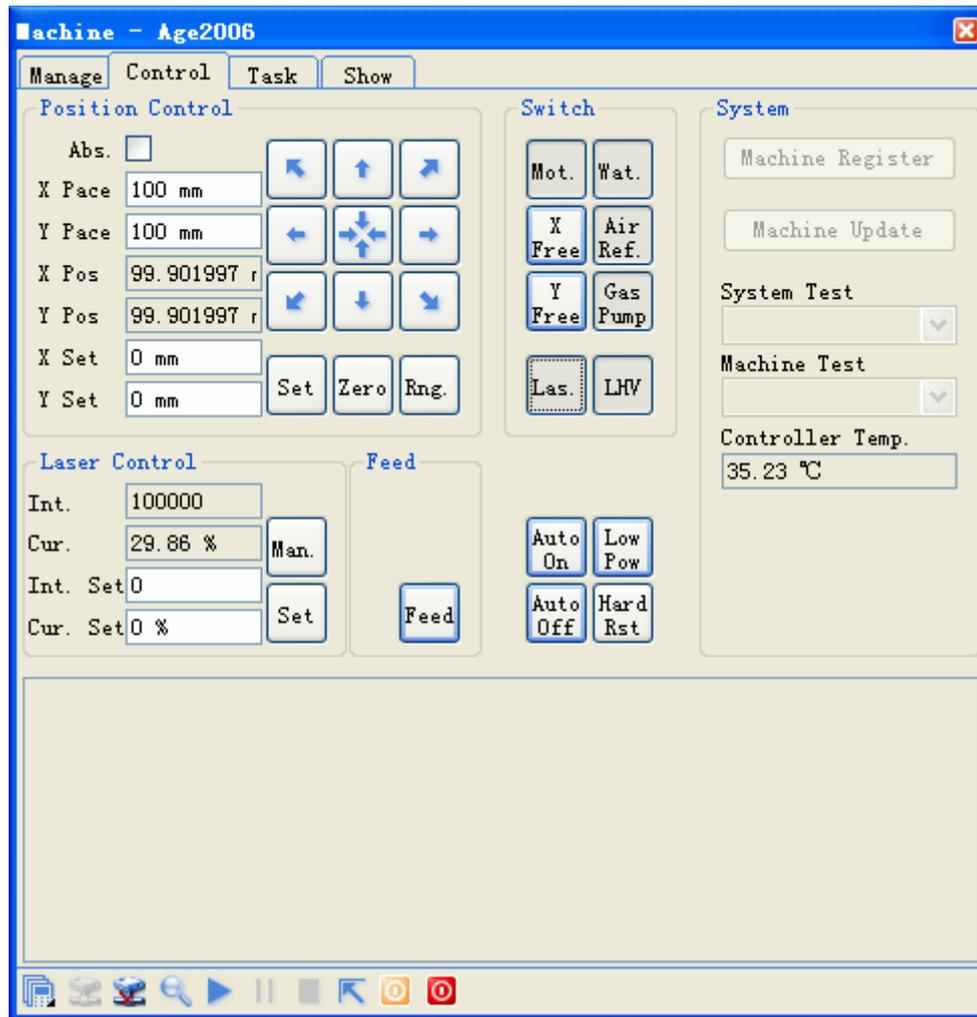
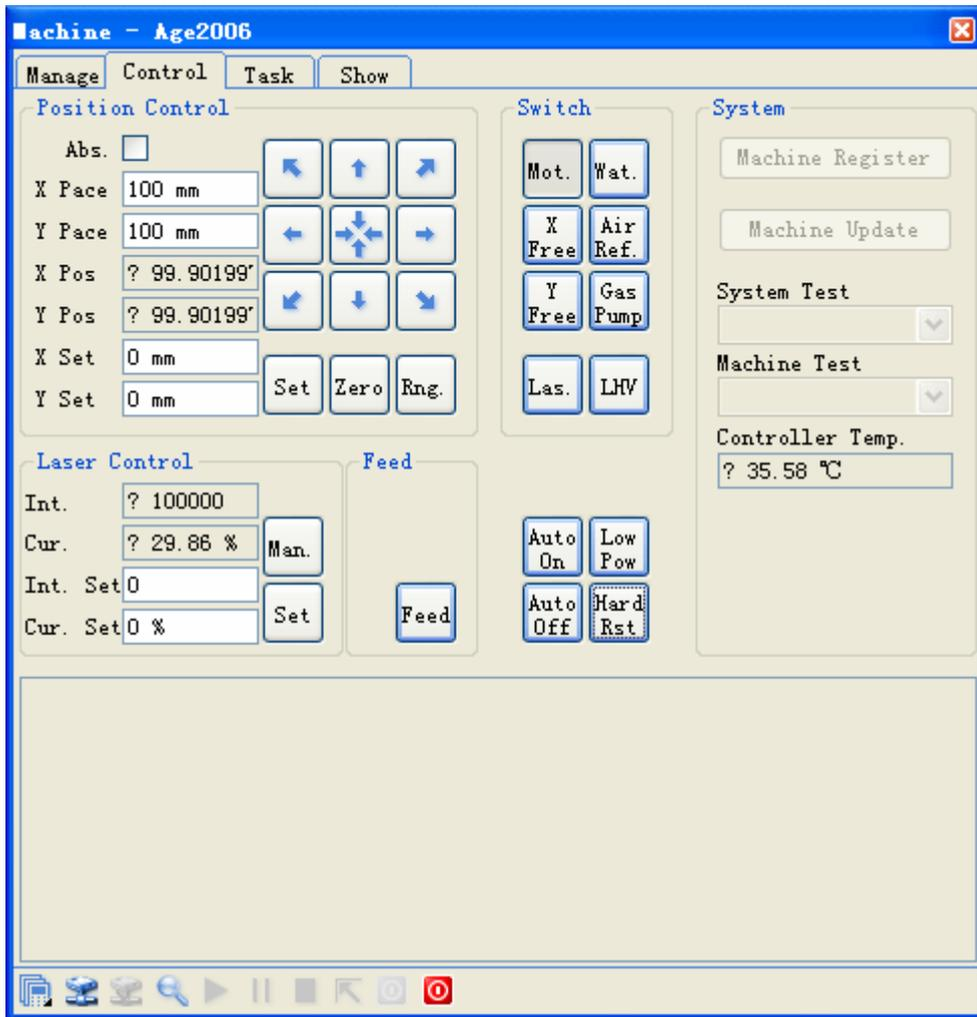

Figure 2-23 Control Dialog
Figure 2-24 Control Dialog 2
4. Choose the control property page (see Figure 2-23), computer is link with the machine, so the **Mot.** button is activated, click the direction buttons to test the machine first. Cancel the selection of the absoluteness, click the direction buttons, machine will move in the direction clicked, its distance moved every times is according to the parameters: X coordinate step distance and Y coordinate step distance (Step distance means the distance the machine moved when click the button one time). Select the absoluteness, the machine will ignore the X coordinate step distance and Y coordinate step distance, it moves on base of the swing in the management property page, click the right-bottom button, the machine will move to the right-bottom of the hole area it can move. Input values in the X coordinate setting and Y coordinate setting, and click the **Set** button, then the machine will go to the position appointed. If the X coordinate offline and Y coordinate offline is pressed, the machine is out of software's control in both directions when moving. In the laser control setting area, the laser control parameters set previously in mission property page is shown, Input values and click the set laser button, the values will be changed. Click the laser out button, the laser will output.
7. Open the management property page, input the result X2 and Y2 in the X coordinate step distance and Y coordinate step distance edit box. Open the control property page (see Figure 2-23), click **Hard Rst** button to reposition the hardware, the machine is out of line now, and the control property page shows as Figure 2-24, all of the buttons except power are not activated, then click the second button  to connect the computer to the machine, activate the buttons as step 5.
10. Open the management property page, input the result X3 and Y3 in the X coordinate step distance and Y coordinate step distance edit box. Open the control property page (see Figure 2-23), click **Hard Rst** button to reposition the hardware, the machine is out of line now, all of the buttons except power are not activated, then click the second button  to connect the computer to the machine, activate the buttons as step 5.